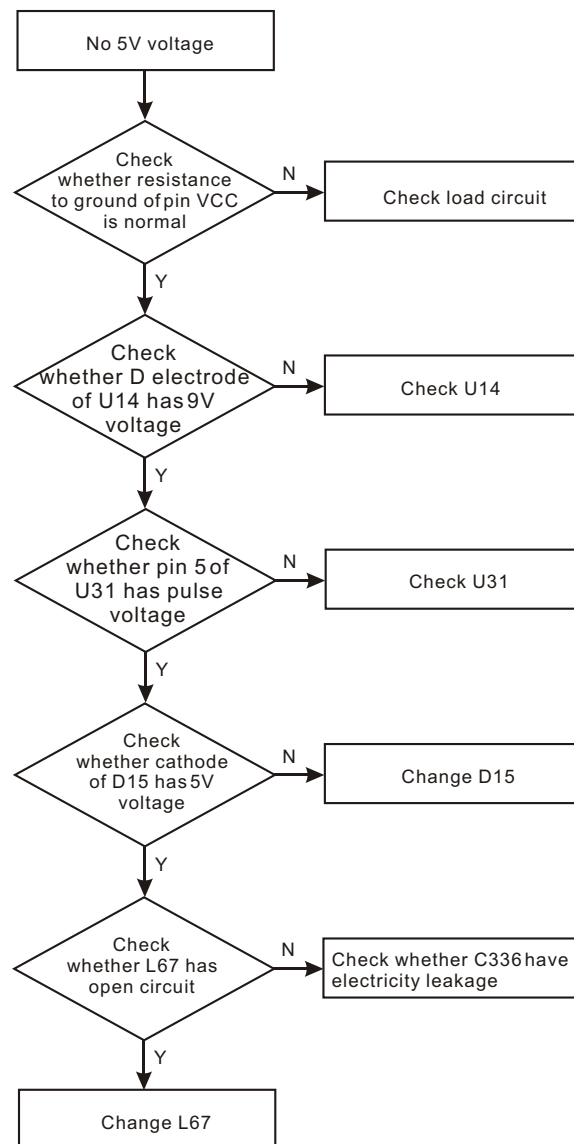

Figure 3.3.2.3 Troubleshooting flow chart for “No 5V voltage”
4. Troubleshooting process for “No DV33V voltage” is shown in the figure 3.3.2.4: